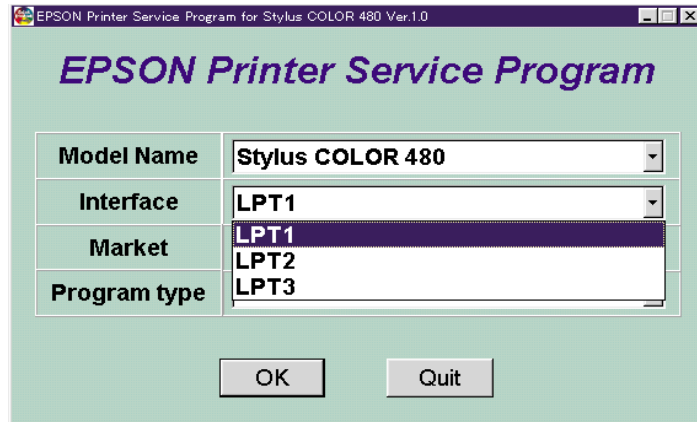

Figure 5-3. Model Name Selection
2. Select the Parallel Interface port number which you connect the printer to your PC as above Figure 5-3.
If you want to exit this program, click the “Quit” button. Following menu is displayed on the screen. And clicking the “Quit” Button in the following menu exit the adjustment program completely. Clicking the “Next” button returns to the Top menu (Initial setting menu) of Figure 5-3.